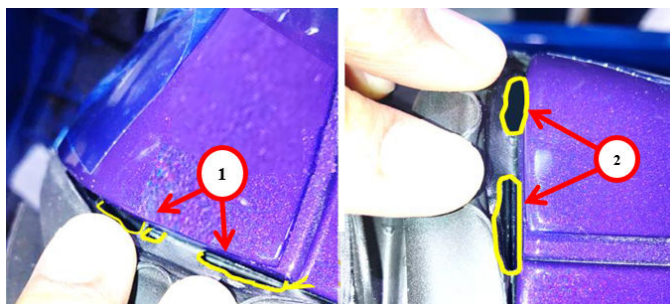

Fig. 4
1. To confirm insufficient wet-out, carefully pull the weatherseal and visually inspect the wet-out area, as shown in Fig. 4.